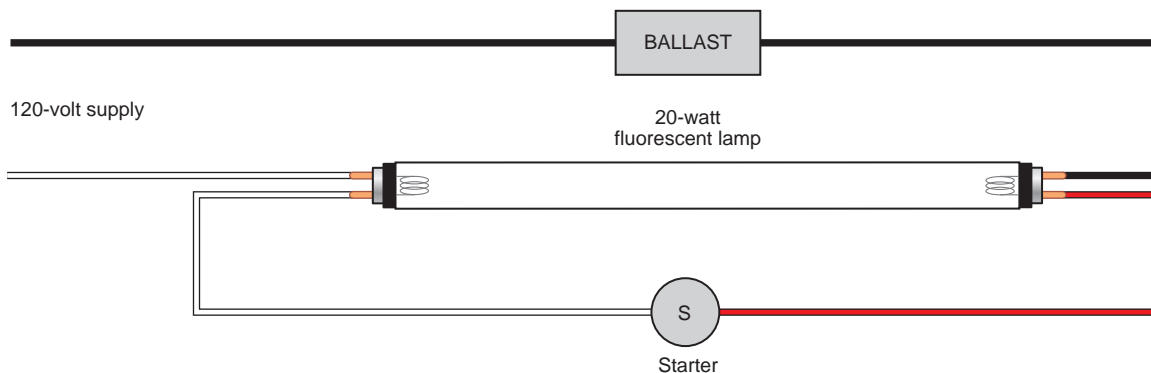

FIGURE 7-11 Simple series circuit. (Delmar/Cengage Learning)
Fluorescent lamps do not have a filament running from end to end. Instead, they have a filament at each end. The filaments are connected to a ballast, as in Figure 7-11. The ballast is needed to (1) control power, (2) control voltage to heat the filaments, (3) control voltage across the lamp to start the arc within the tube, and (4) limit the current flowing through the lamp. The arc is needed to ionize the gas and vaporize the droplets of mercury inside the lamp.
Preheat. Preheat ballasts are connected in a simple series circuit, Figure 7-11. They are easily identified because they have a "starter." One type of starter is automatic and looks like a small roll of Lifesavers with two "buttons" on one end.